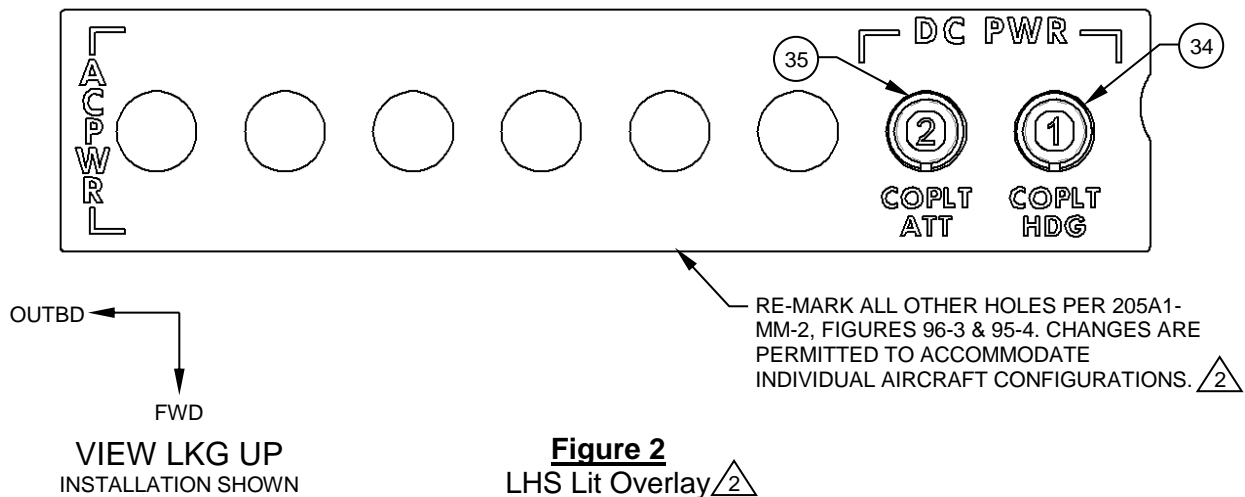

Figure 2
- Remove the lit overlay on the LHS overhead breaker panel and have it re-marked as shown. Alternately, if only day VFR operations are anticipated, it is permissible to identify Attitude and Heading circuit breakers with locally fabricated “CPLT ATT” and “CPLT HDG” labels. Reference Figure 2.